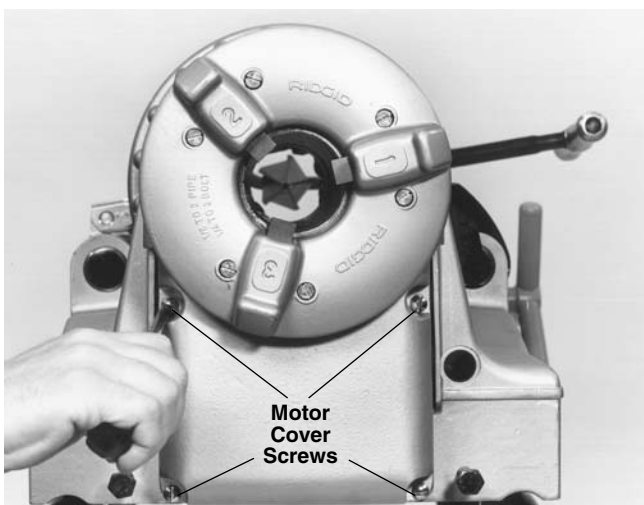

Figure 15 – Loosen And Remove Motor Cover Screws
2. Fully loosen four screws that hold motor housing cover in place and remove motor housing cover (Figure 15).